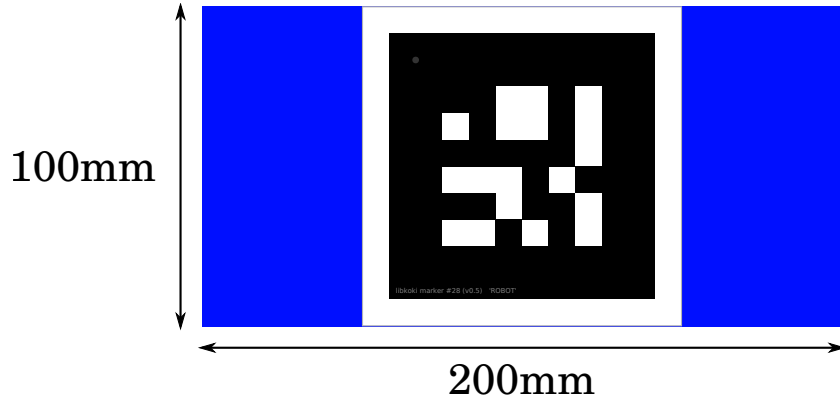

Figure 1: An example robot badge.
3.2.1 A “robot badge” is a removable identifier that will be attached to a robot throughout a match. It features the robot’s assigned marker for the match, as well as a coloured area to allow spectators to easily associate a robot with its zone. An example of one of these badges is shown in figure 1.
The orientation of the badge mounts is unimportant, but teams are encouraged to position them horizontally as shown in figure 1.